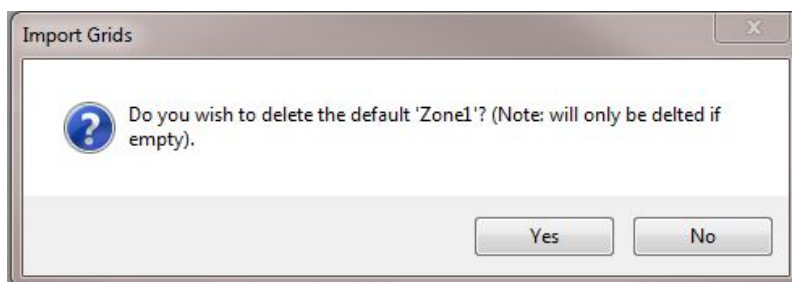

**Figure 155**
- The **Import Site** dialog box will be displayed. See Figure 155 below: